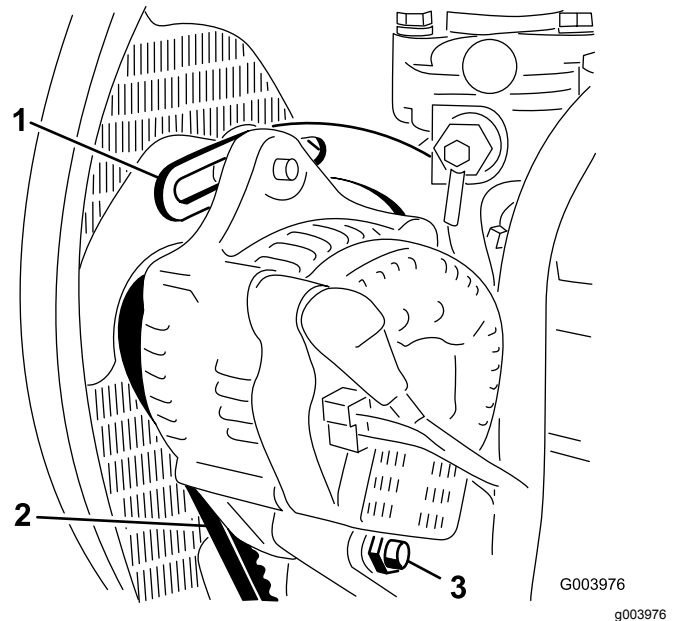

Figure 54
2. Check the tension of the alternator belt by depressing it (Figure 54) midway between the alternator and the crankshaft pulleys with 10 kg (22 lb) of force.
4. Loosen the bolt securing the brace to the engine (Figure 54), the bolt securing the alternator to the brace and the pivot bolt.